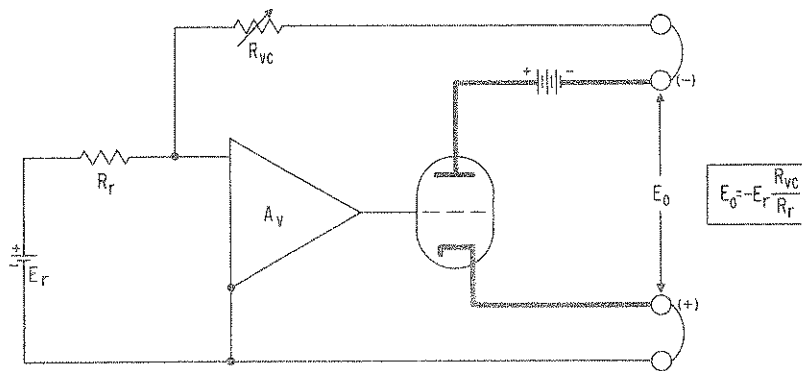

FIG. 3-1 VOLTAGE CONTROL CIRCUIT, OPERATIONAL NOTATION.
- 1) Without changing the physical layout of any component in FIG. 3-3, the voltage comparison amplifier and control circuitry can be redrawn to illustrate a useful analogy between a power supply and a d-c feedback "operational" amplifier. (See FIG. 3-1.)